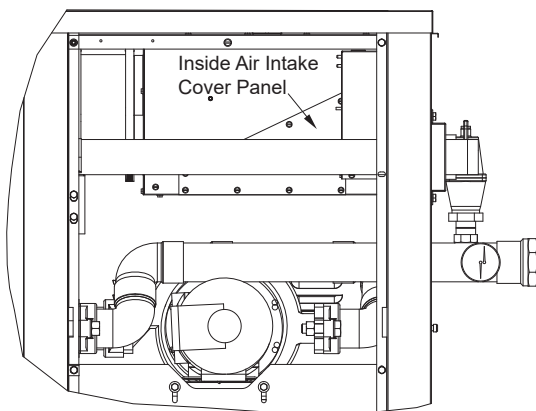

Figure 8. Install the Inside Air Intake Cover Panel
4. From the right-rear side access area, install the inside air intake cover panel using the nine (9) hex-head screws provided. See **Figure 8**.